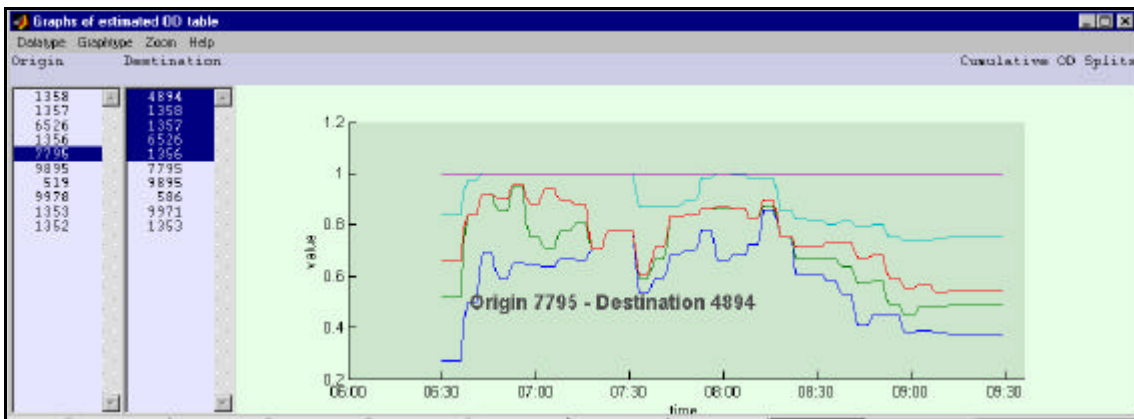

Figure 12: Plot of O/D flow and split proportions.
- ◆ Select “Plot OD flows and OD splits” from the menu “OD matrix”. This activates the interface shown in Figure 12. The cumulative O/D splits are plotted from a given origin (e.g. 7795) to its destinations. By clicking on the plotted lines the O/D pair will be shown.